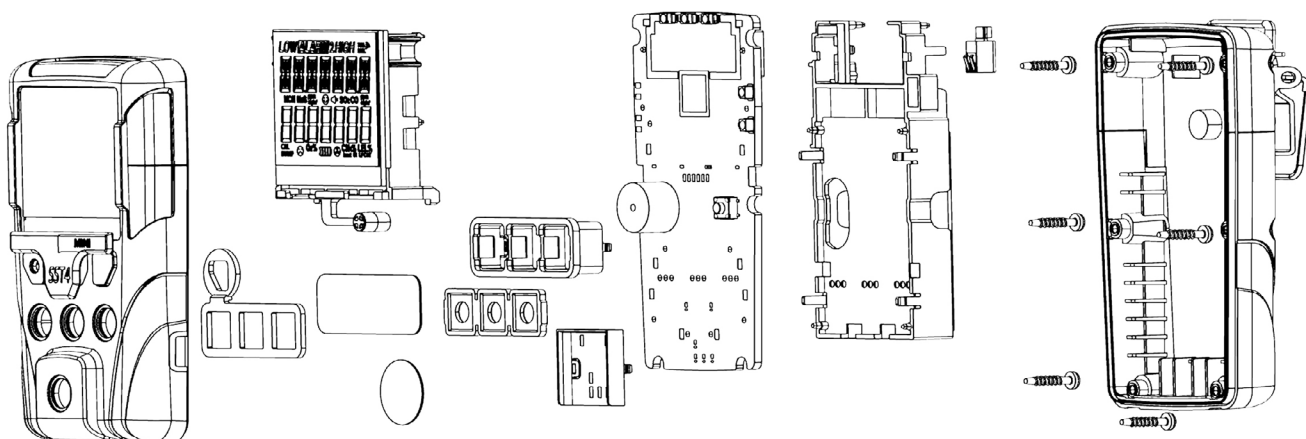

Figure 12. Replacing a Sensor or Sensor Filter for the SST4 Mini
4. Insert the new sensor(s). For sensor positioning, refer to **Figure 12**.